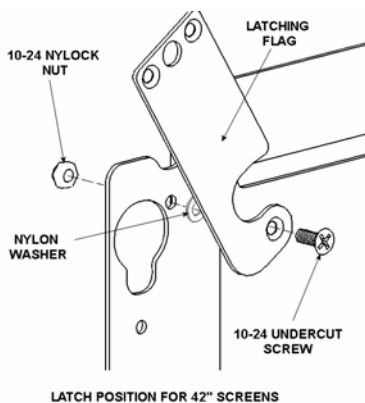
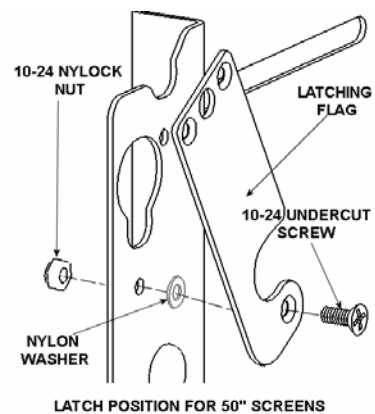

Figure 2
Figure 3
1. Attach latching flag to mount using the 10-24 Phillips head screw, Nylon washer, and Nylock nut using the inside set of holes for the 42" screens and the outside set of holes for the 50" screens (see Figure 2 & Figure 3). Tighten until friction will hold the flag in place.